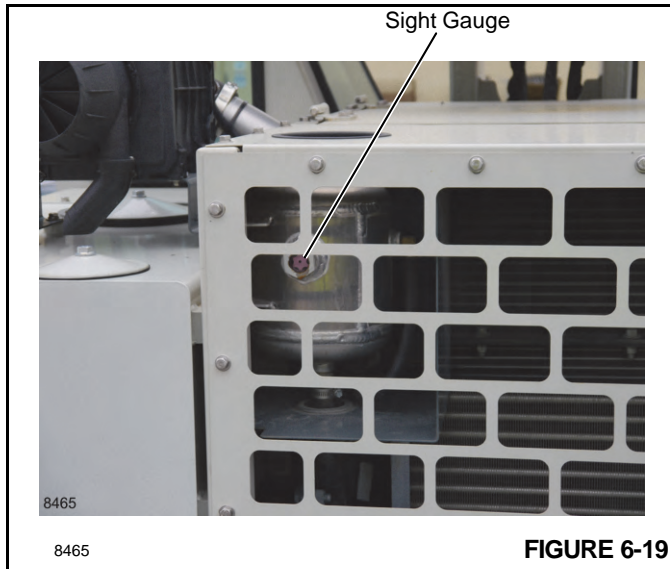

FIGURE 6-19
2. Coolant should be visible in the sight gauge (Figure 6-19).